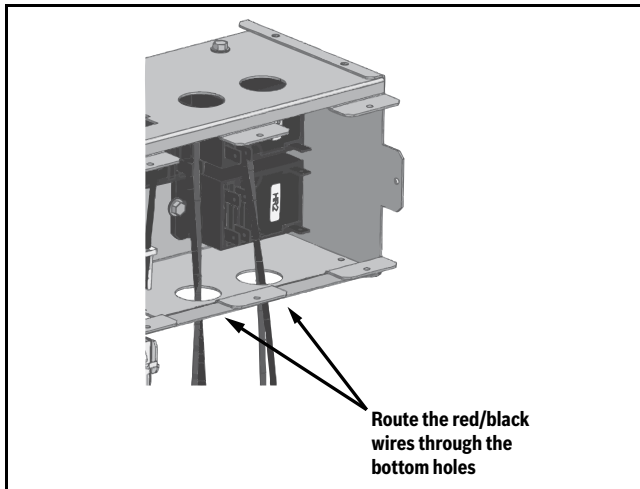

Fig. 39 Route the Red/Black Wires through the Bottom Holes
2. Locate the red/black (conduit protected) elements wires and route the wires through the bottom holes of the e-heat control box. Be sure to make note of the different wire pairs—each relay has one black and one red wire. (→Refer to Fig. 39.)